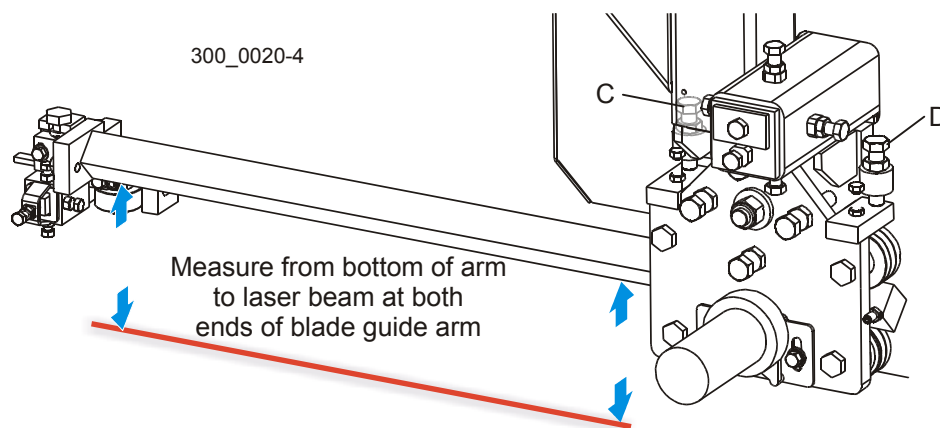

FIG. 3-29
See **Figure 3-29**. Adjust the blade guide arm all the way in. Measure from the bottom of the arm to the laser beam at both ends of the arm. The two measurements at each end of the arm should be the same within $1/32$ ". To adjust the vertical tilt of the arm, adjust the bolts (C & D) on the blade guide arm mounting plate. Loosen the jam nuts. Adjust bolt (C) up and bolt (D) down to tilt the arm up. Adjust bolt (D) up and bolt (C) in to move the arm toward the blade. Recheck the distance from the arm to the laser beam at both ends of the arm. Readjust if necessary. Tighten the jam nuts.